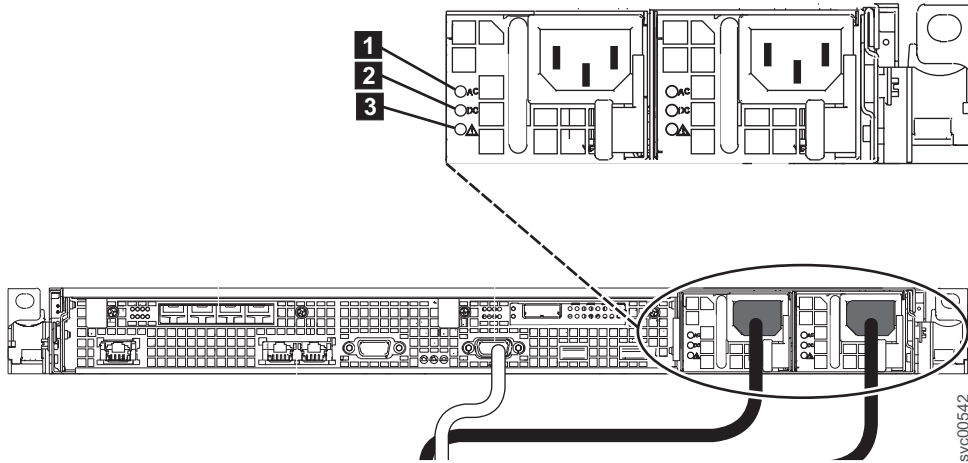

Figure 158. SAN Volume Controller 2145-CF8 ac, dc, and power-error LEDs
5. To the left of the power-cord connector on each power supply, verify that the ac power LED, as shown by **1** in Figure 158 on page 149, and the dc power LED (**2**) are lit.